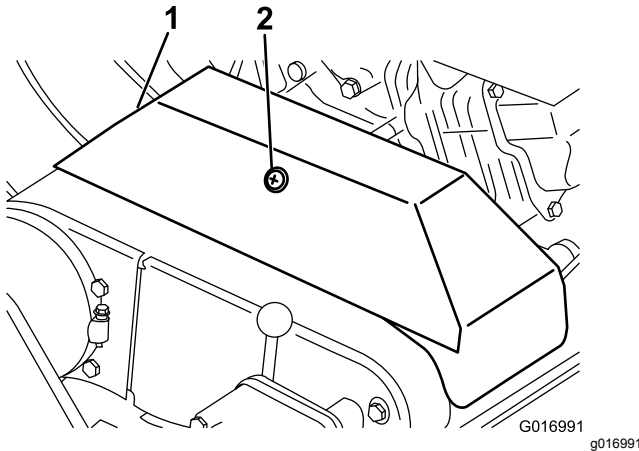

Figure 46
2. Loosen the retainer that secures the V-belt cover and pivot the cover open (Figure 46).